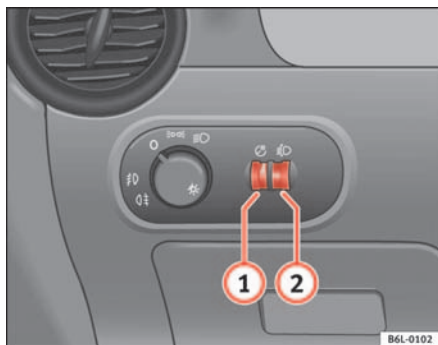

Fig. 56 Detail of the dash panel: Regulation for instrument and switch illumination and headlight range control
When the headlights are switched on, the brightness of the instruments and switch lighting can be regulated to suit your requirements by turning the thumb wheel ⇒ fig. 56 ①.